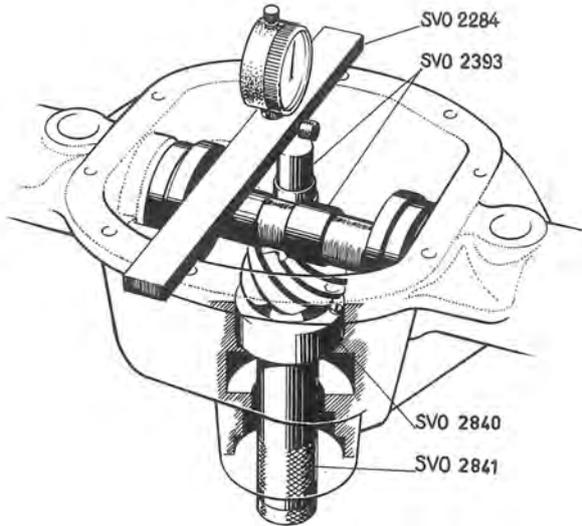
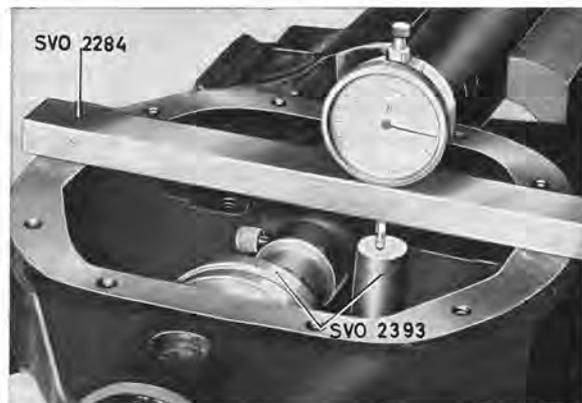

Fig. 4-156. Locating measuring tools
Fig. 4-157. Zero-zetting indicator
1. Clean the marking surface on the pinion with extremely fine emery cloth. Fit the adjusting ring 2840 and tool 2841 on the pinion, see Fig. 4-154. Place the pinion in the carrier, see Fig. 4-156, and secure the adjusting ring by screwing out the lock screw.
Place the pinion gauge on the ground surface of the pinion and the adjusting jig in the differential bearing positions as shown in Fig. 4-156. Place the indicator retainer on the drive pinion carrier and zero-set the gauge against the adjusting ring, see Fig. 4-157. Then move the indicator retainer over so that the indicator comes against the pinion gauge, see Fig. 4-158. If the pinion is, for example, marked 33, the pinion gauge should lie 0.33 mm (0.013") under the adjuster fixture. The setting is adjusted by turning the cam on the pinion until the gauge dial shows the correct value. Then lock the adjusting ring with the lock screw. Remove the measuring tool and pinion.